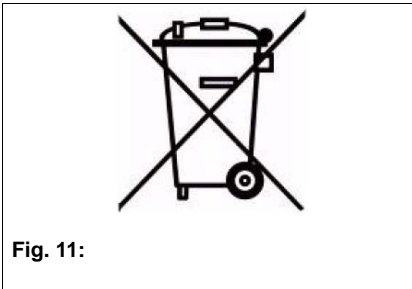

Fig. 11:
- Do not throw products with the label (Fig. 11) attached into normal household waste at the end of their service life.